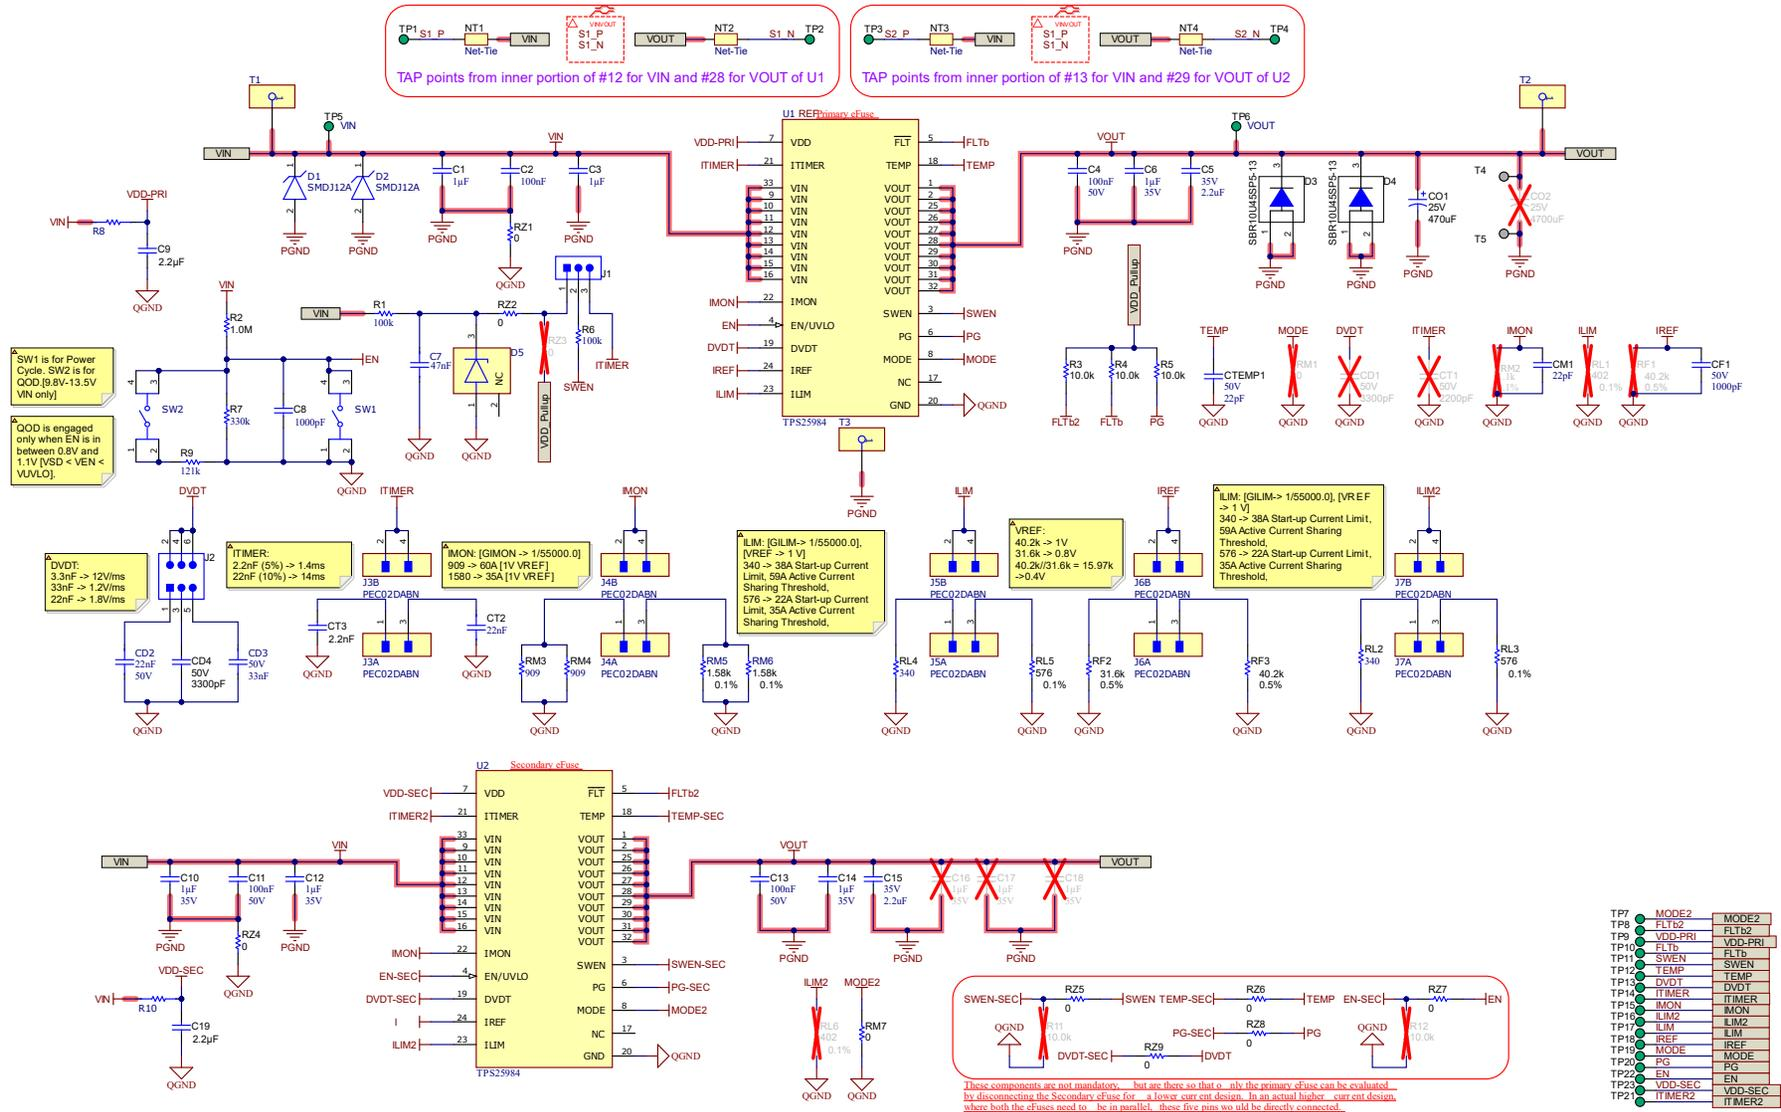
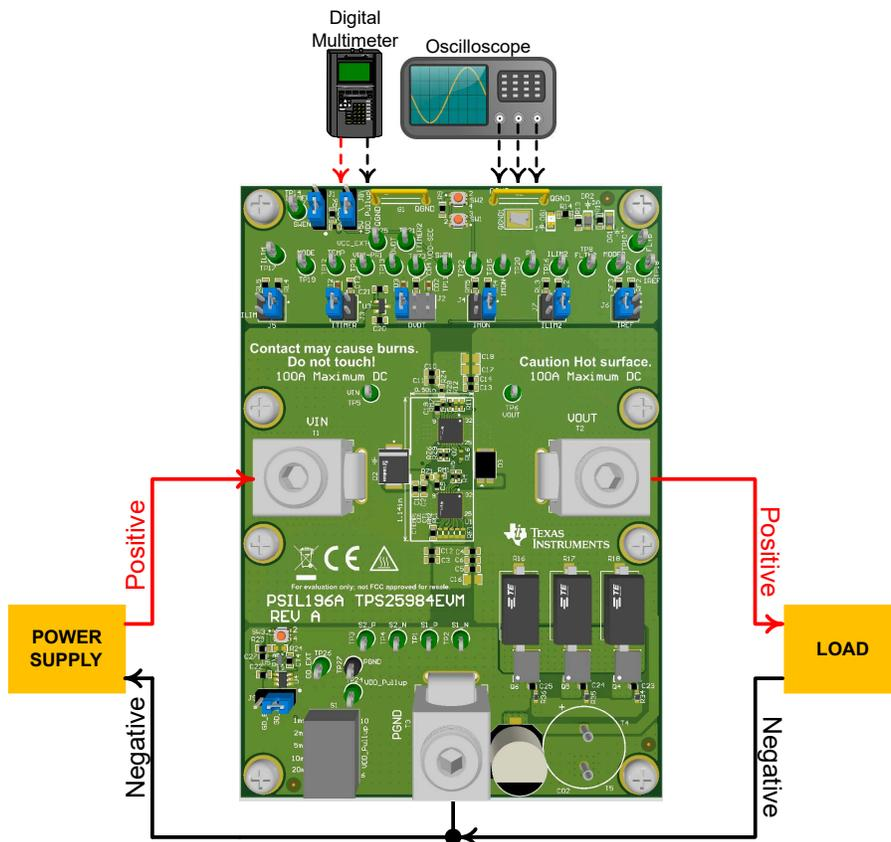

Figure 3-1. TPS25984EVM eFuse Evaluation Board Schematic (Page 1)
Figure 5-1. TPS25984EVM Setup With Test Equipment
| Figure 3-1. TPS25984EVM eFuse Evaluation Board Schematic (Page 1)..... | 4 |
The TPS25984EVM enables the evaluation of TPS259840x and TPS259841x eFuses from TPS25984 family. This EVM has two (2) TPS259840x eFuses connected in parallel. The input power is applied across the connectors T1 and T3, while T2 and T3 provide the output connection for the EVM; refer to the schematic in Figure 3-1 and EVM test setup in Figure 5-1. TVS diodes D1 and D2 provide the input protection from transient overvoltages. Schottky diodes D3 and D4 protect the output by clamping the negative voltage excursion at the OUT pins of TPS25984 eFuses within the minimum absolute rating.
Figure 3-1 illustrates the EVM schematic.